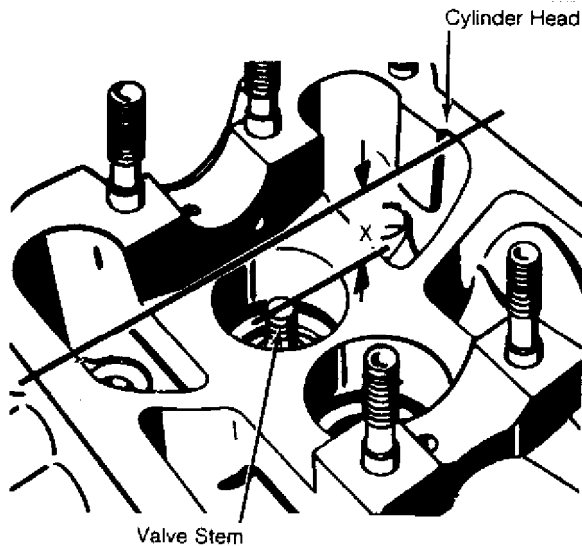

Fig. 5: Measuring Refacing Limit of Valve Seats
2) One of 2 limits for cutting valve seats (dimension "y") is determined by measured distance "X" between stem end of closed stem and upper face of cylinder head (where valve cover gasket rests). See Fig. 5. Insert valve into guide and hold tightly against seat.